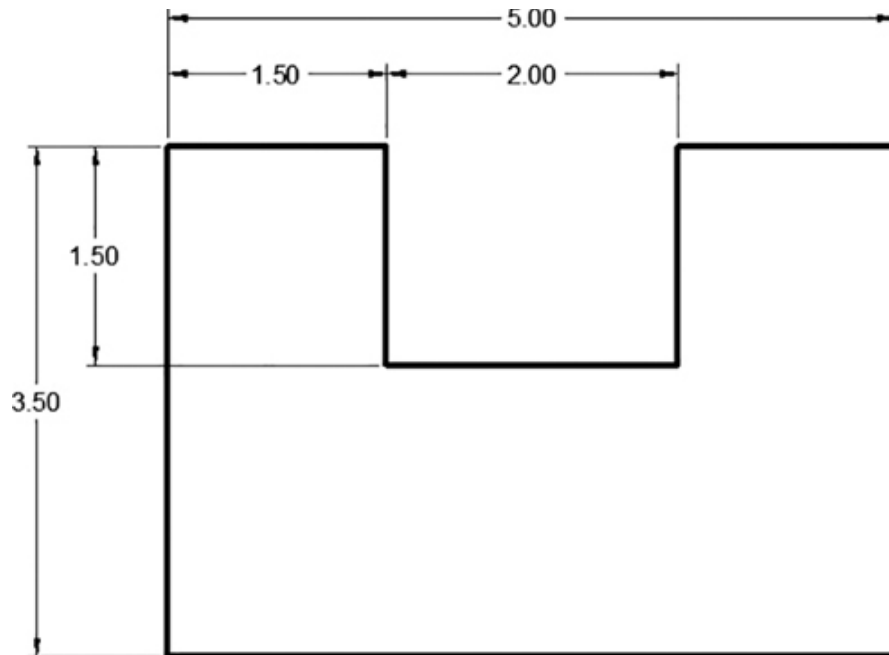

Figure 9-5
- 2** Create the drawing shown in Figure 9-5 using the **PLINE** command. **Do not** draw dimensions.